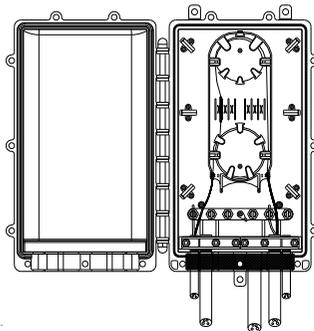

Figure 5
- Important issues: If any problems occur, they should be solved right away. See figure 5